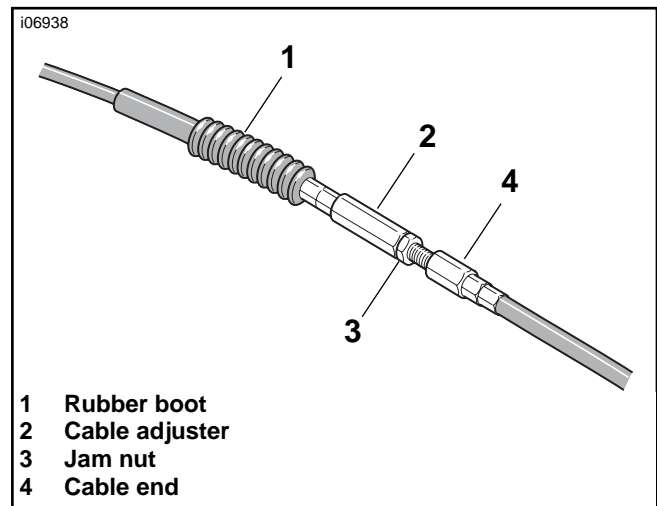

Figure 5. Clutch cable adjustment
- a. See Figure 5. Slide rubber boot (1) off cable adjuster (2). Adjuster is located approximately halfway along clutch cable by the front frame downtube.
- b. Holding cable adjuster with 1/2 inch wrench, loosen jam nut (3) using a 9/16 inch wrench. Back jam nut away from cable adjuster. Move adjuster toward jam nut to introduce a large amount of freeplay at the hand lever.